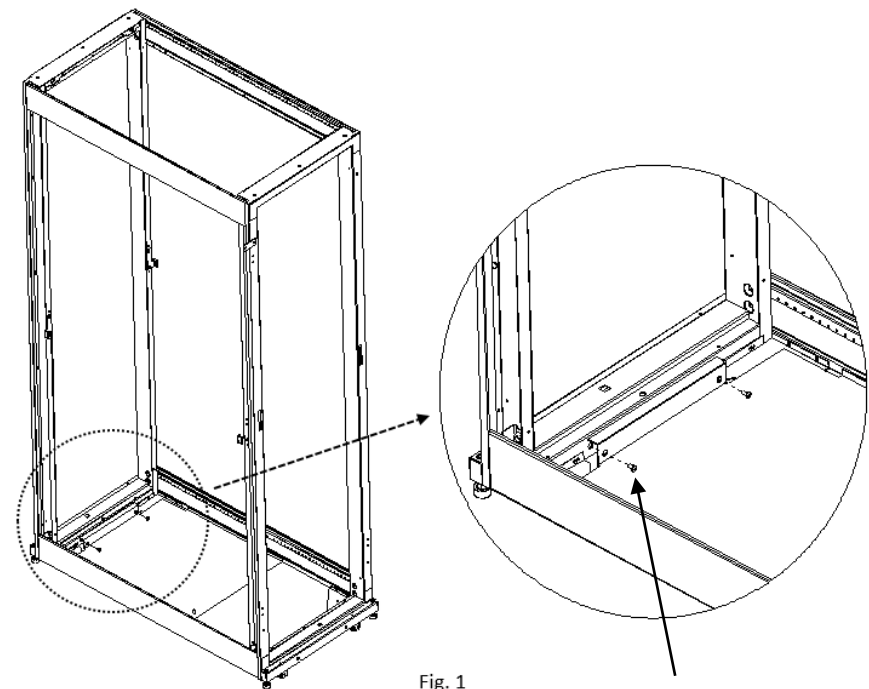

Fig. 1
1. Fasten the front panel using two M6x10mm screws into the bottom frame as shown in Fig.1